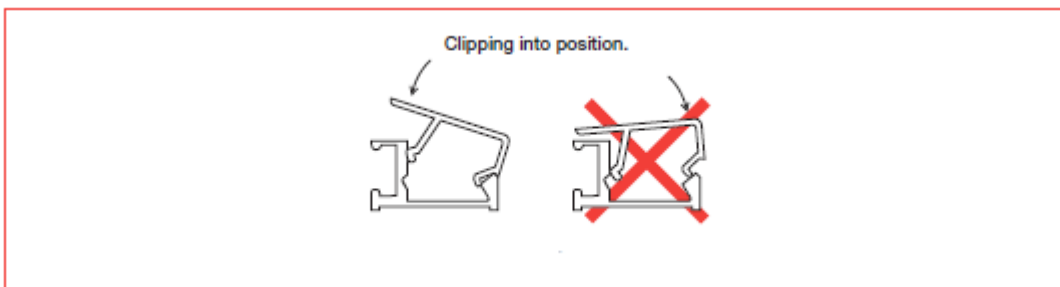

Figure 2
6. Replace cover strip back into aluminium carrier using tilt/push method as *Figure 2*.